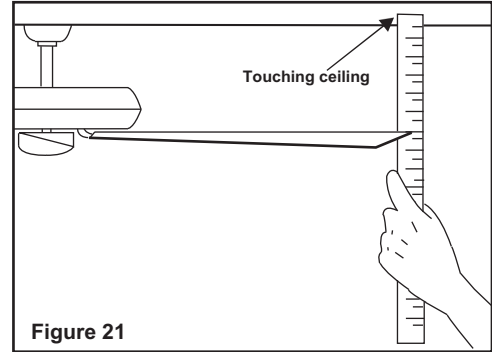

Figure 21
2. Most fan wobbling problems are caused when blade levels are unequal. Check this level by selecting a point on the ceiling above the tip of one of the blades. Measure this distance. (Fig. 21) Rotate the fan until the next blade is positioned for measurement. Repeat for each blade. The distance deviation should be equal within 1/8".